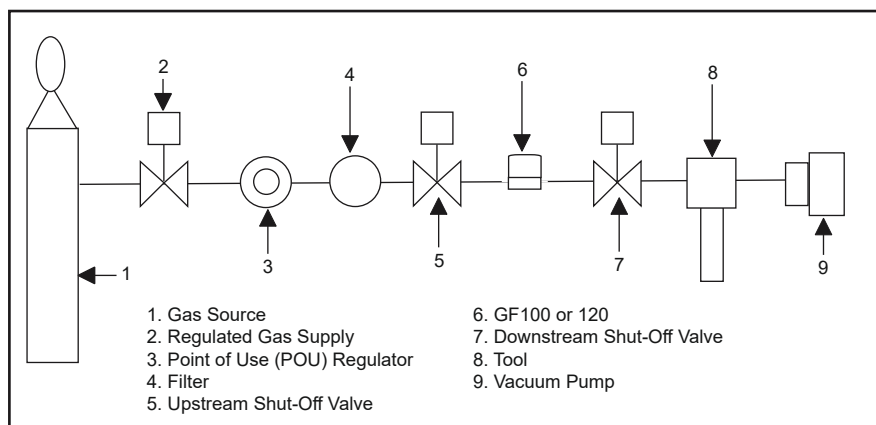

Figure 2-1 Typical Gas Supply Arrangement with Non-PTI MFC
Typical gas supply arrangements are shown in Figures 2-1 and 2-2. GF are often arranged inside a gas panel. Configure standard configurations (“SHs”) or “blanks” for a variety of pure gases and mixtures. As a result, MultiFlo technology enables the user to reduce unique inventory requirements.
For additional safety, it is recommended to close the two valves between the charged gas line and the GF100/GF120xHT/GF101 Series to be installed. See Figures 2-1 and 2-2 for more details.
2. Refer to Figure 2-1. Open the upstream shut-off valve (5) and close the downstream shut-off valve (7). This eliminates a pressure drop across the GF100/GF120xHT/GF101 Series and subsequent leakage from the PID control valve inside the GF100/GF120xHT/GF101 Series.
4. Refer to Figure 2-1. Close the upstream shut-off valve (5) to prevent any pressure effects from the regulator (3).